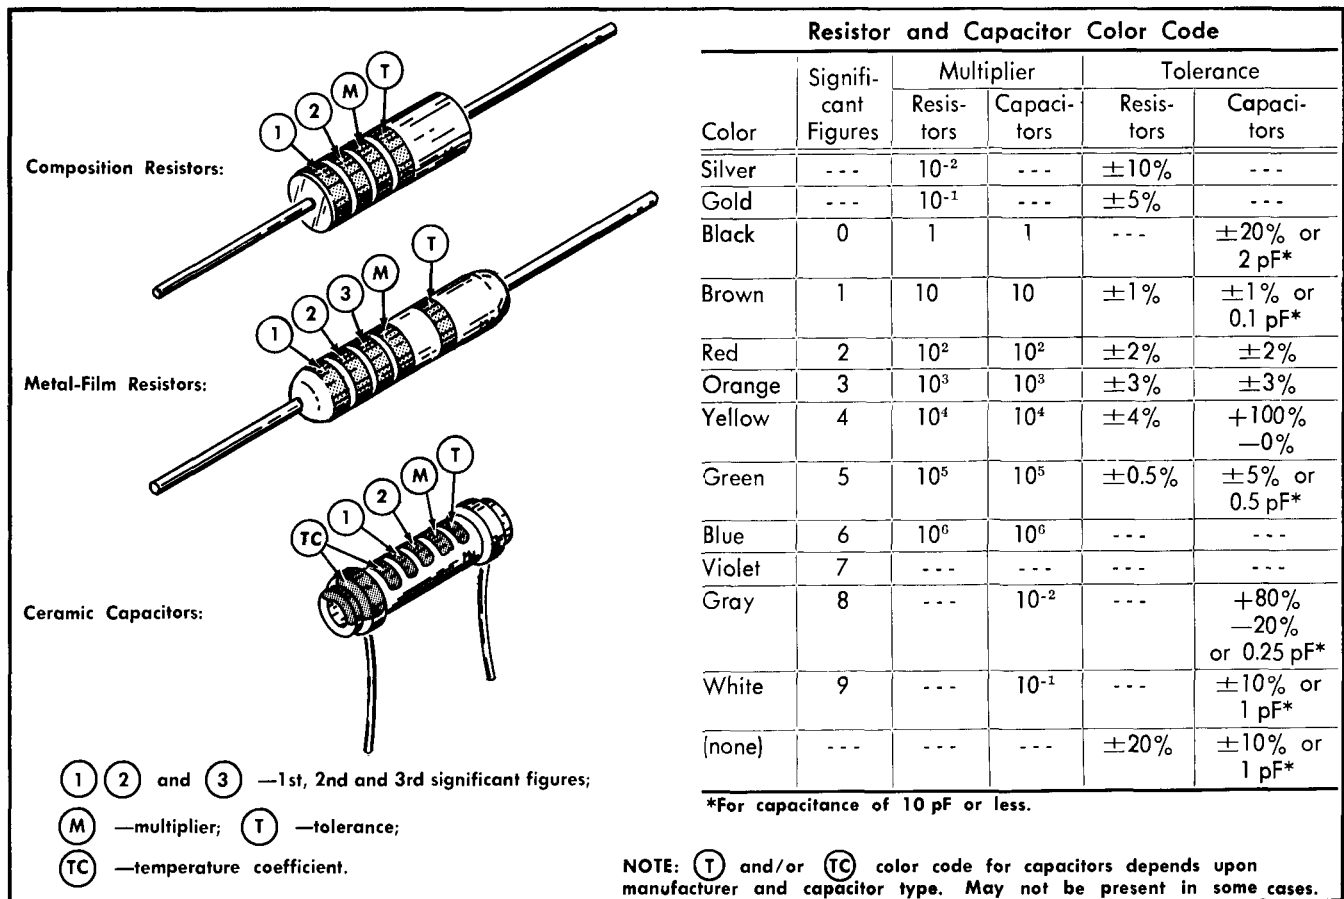

Fig. 4-9. Color coding of metal-film resistors.
**Resistor Color Code.** A number of precision metal-film resistors are used in this instrument. These resistors can usually be identified by their gray body color. If a metal-film resistor has a value indicated by three significant figures and a multiplier, it will be color coded according to the EIA standard resistor color code. If it has a value indicated by four significant figures and a multiplier, the value will be printed on the body of the resistor. For example, a 333 k $\Omega$  resistor will be color coded, but a 333.5 k $\Omega$  resistor will have its value printed on the resistor body. The color code sequence is shown in Fig. 4-9.